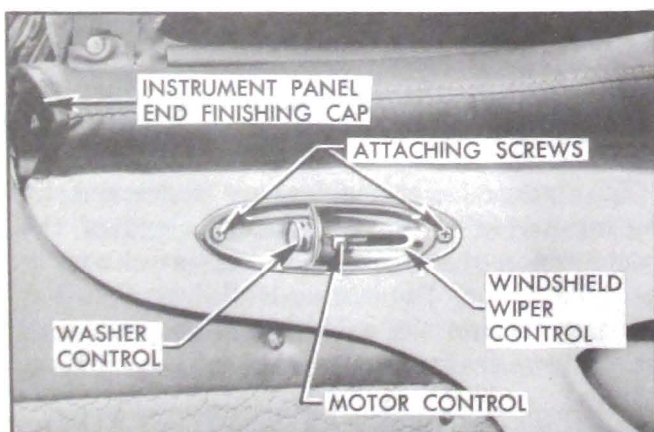

Figure 13-17—Windshield Wiper Control Attachment
4. Remove attaching screws from wiper control on instrument panel and disconnect washer control hose. See Figure 13-17.